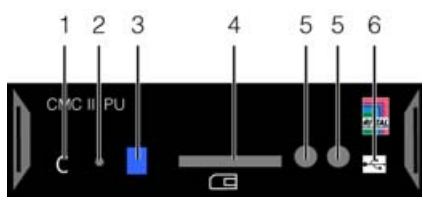

Fig. 57: Liquid Cooling Package control unit (CMC III PU) – front
In order to switch the device to normal operation (control operation), briefly press the "C" button (fig. 57, item 1) once.